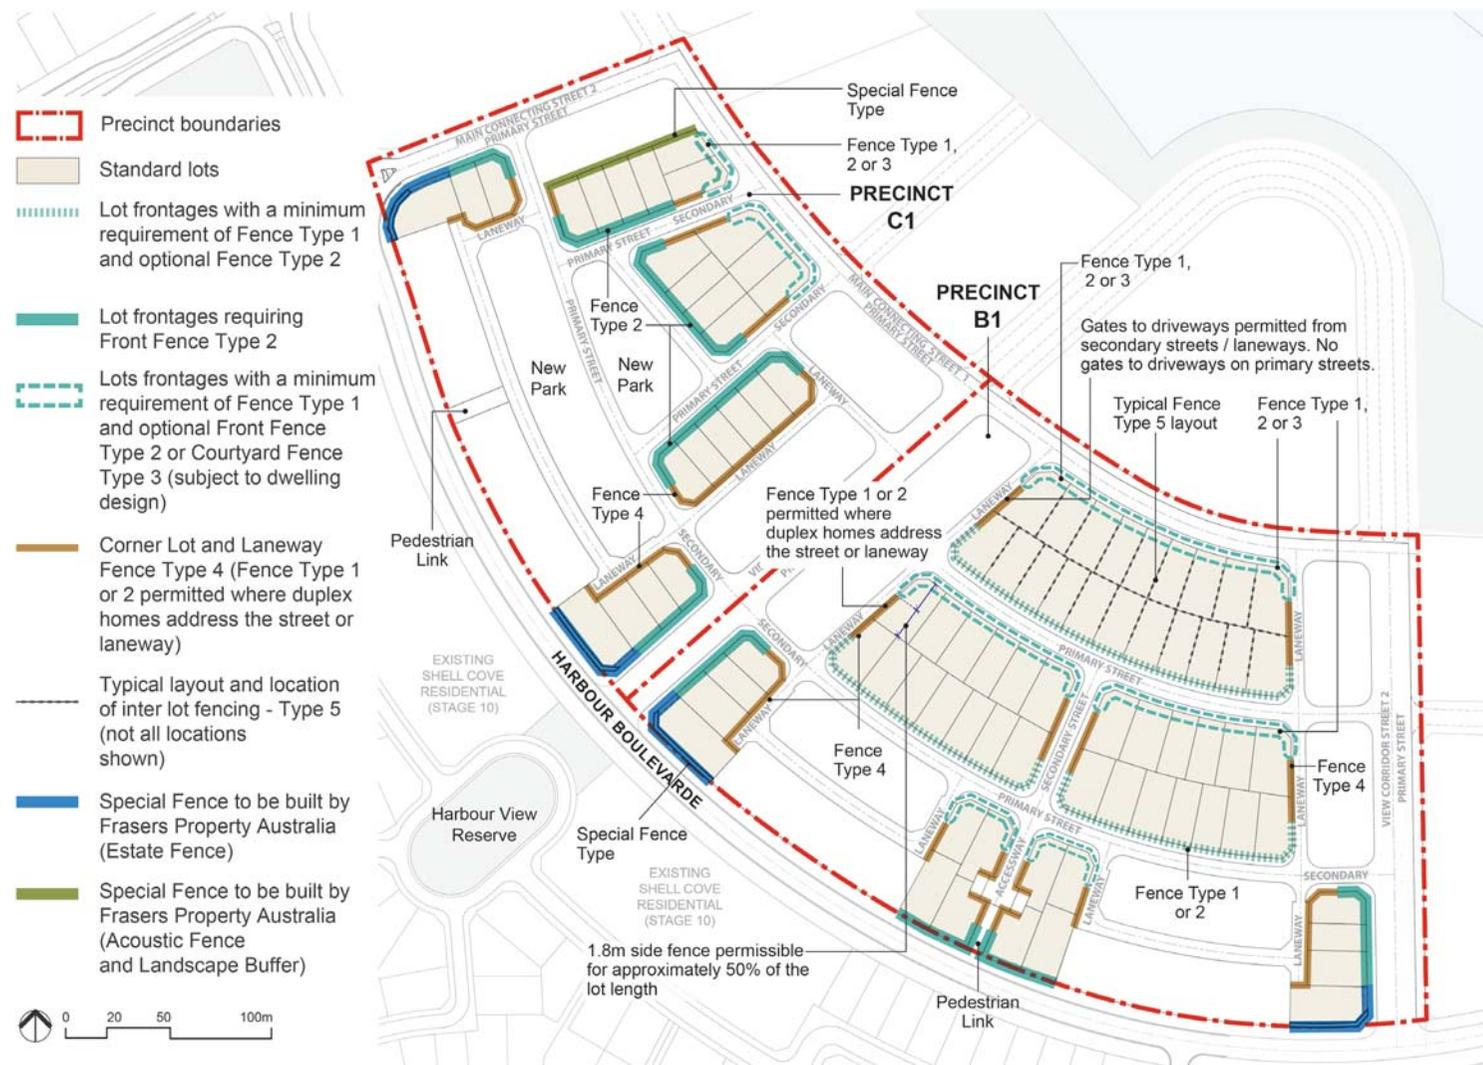

FIGURE 27: Fencing for housing lots
All fencing is to be consistent with Figure 27.
- Front fences can provide for a unified streetscape and a special character for individual lot frontages. At The Waterfront Shell Cove, front fencing requirements vary depending on the lot address (refer to Figure 27):
a fencing option in accordance with Figure 27.